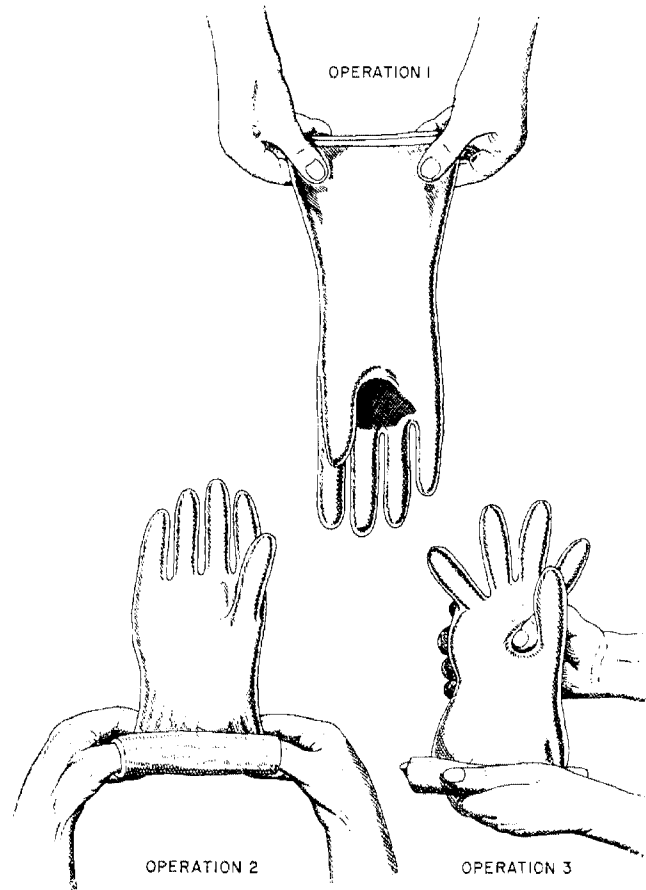

Fig. 5—Air Test Operations 1-2-3
8.01 This test shall be made on insulating gloves only when the conditions listed under 7.04 are satisfactory. Make this test as follows: (See Fig. 5.)